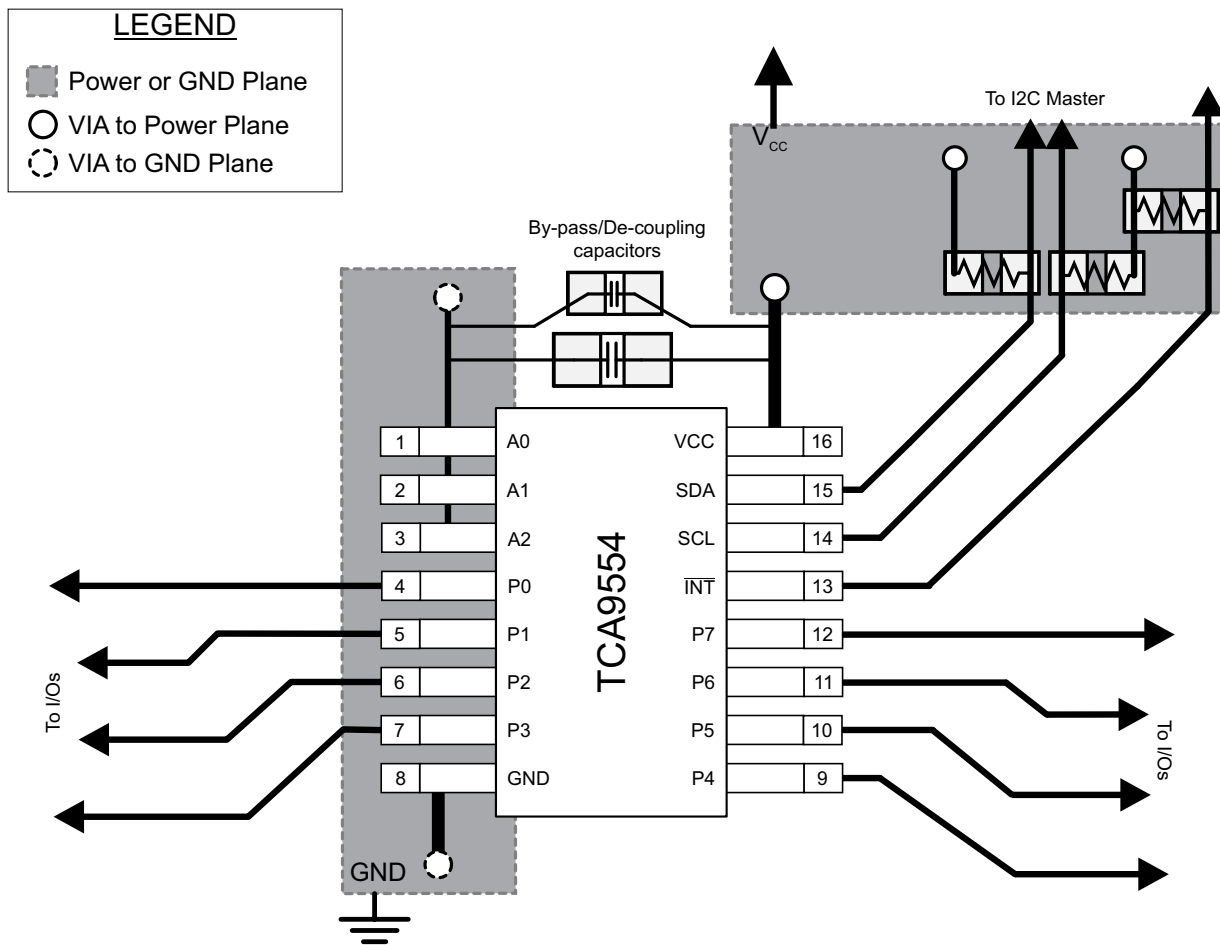

Figure 32. TCA9554 Layout
In all PCB layouts, it is a best practice to avoid right angles in signal traces, to fan out signal traces away from each other upon leaving the vicinity of an integrated circuit (IC), and to use thicker trace widths to carry higher amounts of current that commonly pass through power and ground traces. By-pass and de-coupling capacitors are commonly used to control the voltage on the VCC pin, using a larger capacitor to provide additional power in the event of a short power supply glitch and a smaller capacitor to filter out high-frequency ripple. These capacitors should be placed as close to the TCA9554 as possible. These best practices are shown in Figure 32.
For the layout example provided in Figure 32, it would be possible to fabricate a PCB with only 2 layers by using the top layer for signal routing and the bottom layer as a split plane for power (VCC) and ground (GND). However, a 4 layer board is preferable for boards with higher density signal routing. On a 4 layer PCB, it is common to route signals on the top and bottom layer, dedicate one internal layer to a ground plane, and dedicate the other internal layer to a power plane. In a board layout using planes or split planes for power and ground, vias are placed directly next to the surface mount component pad which needs to attach to VCC or GND and the via is connected electrically to the internal layer or the other side of the board. Vias are also used when a signal trace needs to be routed to the opposite side of the board, but this technique is not demonstrated in Figure 32.